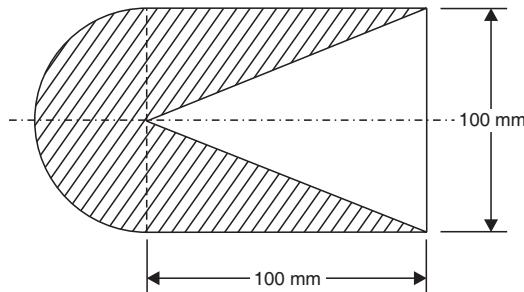

Fig. 7.40
**Example 7.19.** Determine the centre of gravity of a homogeneous solid body of revolution as shown in Fig. 7.40.